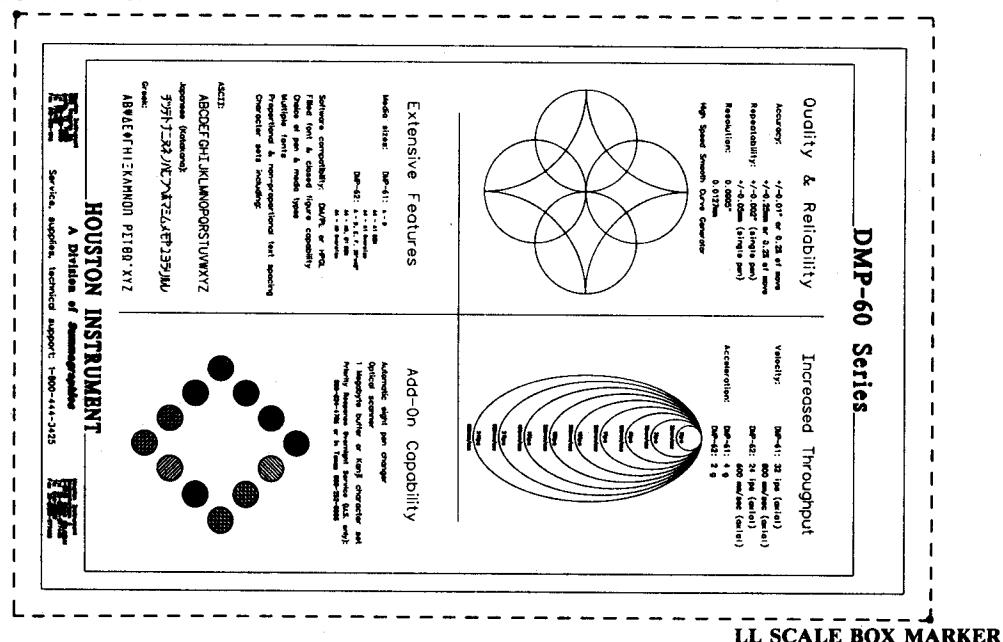

FIGURE 2-17. SCALE BOX MARKERS TO CREATE MIRROR IMAGE PLOTS
4. Use the **MANUAL MOVEMENT KEYS** to move the pen holder to the position of the upper right scale box marker illustrated in Figure 2-17. After the pen holder is positioned, specify this location as the upper right scale box point by pressing **ENTER**, and then **SCALE UR**.
Next, use the **MANUAL MOVEMENT KEYS** to move the pen holder to the position of the lower left scale box marker illustrated in Figure 2-17. After the pen holder is positioned, specify this location as the lower left scale box point by pressing **ENTER**, and then **SCALE LL**. Register the corner points by pressing the **LOCAL** key.